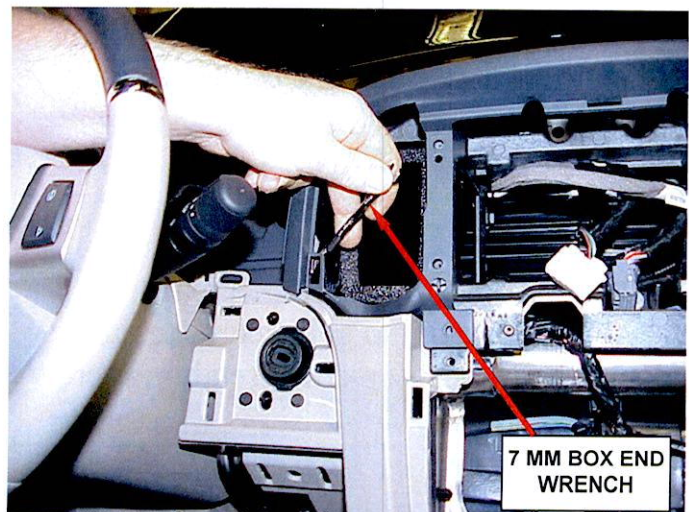

Figure 5 – Remove Hidden Screw
19. Using a 7 mm box end wrench, remove the hidden top cover-to-instrument panel retaining screw located at the right side of the cluster opening (Figure 5).